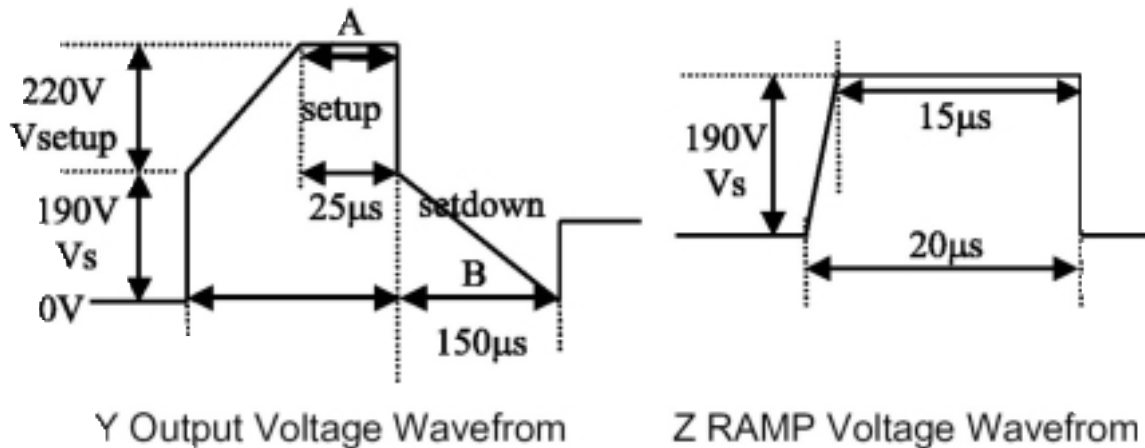
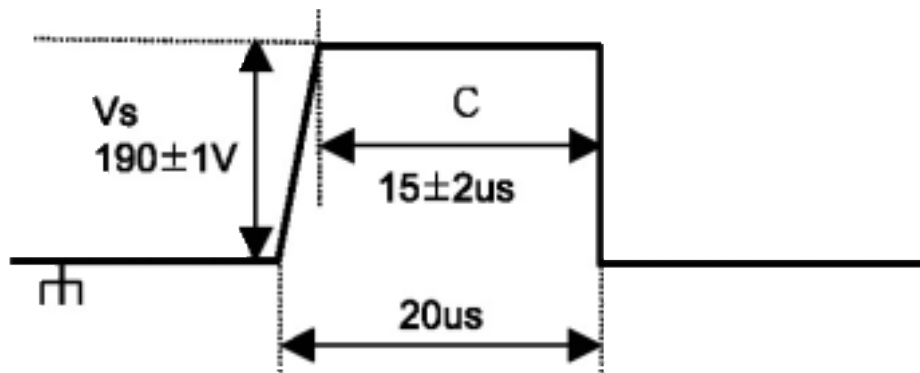

Fig. 9 Y Set-up Wave form
Fig. 10 Z ramp Wave form
- Turn the VR1 of Y-SUS PCB and make the "A" wave form Fig. 9 to be $25 \pm 5 \mu s$.
- (2) Adjusting Vset-down Voltage Wave form Turn the VR2 of Y-SUS PCB and make the "B" wave form Fig. 9 to be $190 \pm 5 \mu s$.
- (3) Adjusting Vramp Voltage Wave form
- Turn the VR3 of Z PCB and make the "C" wave form Fig. 10 to be $15 \pm 2 \mu s$. But, in case of not setting up the Test point, produce same output and adjust wave form connect to other pattern or parts which has no possibility of short.